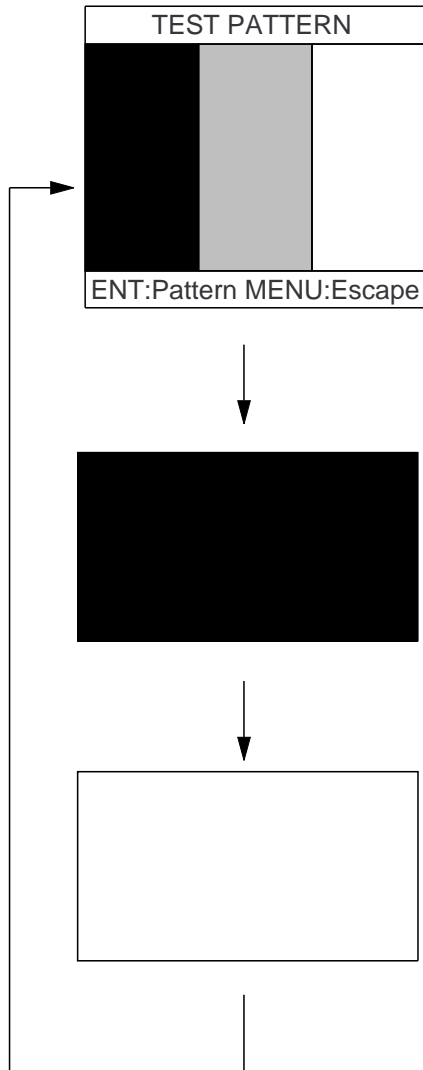

Figure 9-12 Test patterns 1 and 2
- 2) To change the test pattern, press the [NU/CU ENT] key. Each time the key is pressed one of the patterns shown in Figure 9-12 appears.